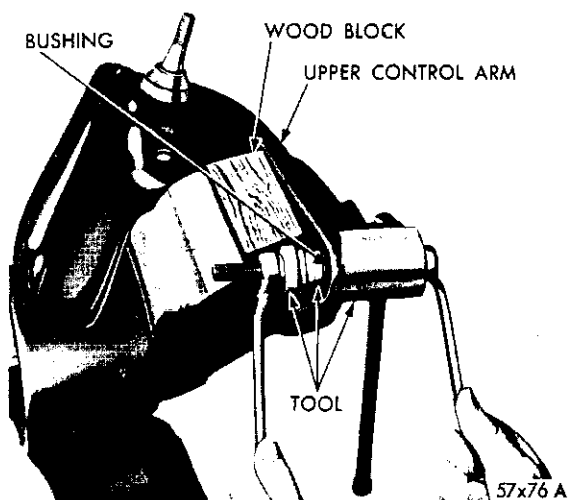

Fig. 17—Removing the Upper Control Arm Bushing
(2) Assemble Tool C-3710 over bushing and press the bushing out of the arm (from inside out) (Fig. 17). Be sure the control arm is firmly supported if a hammer and drift is used in place of the tool.